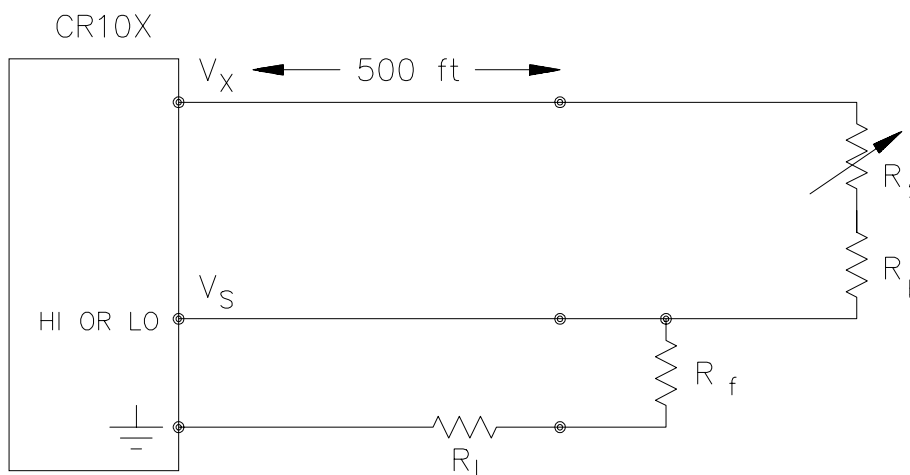

FIGURE 13.3-9. Incorrect Lead Wire Extension on Model 107 Temperature Sensor
6. Most Campbell Scientific sensors are configured with a small bridge resistor, R_f , (typically 1 kohm) to minimize the source resistance. If the lead length of a Campbell Scientific sensor is extended by connecting to the pigtailed directly, the effect of the lead resistance, R_l , on the signal must be considered. Figure 13.3-9 shows a Campbell Scientific Model 107 sensor with 500 feet of extension lead connected directly to the pigtailed. Normally the signal voltage is proportional to $R_f/(R_s+R_b+R_f)$, but when the pigtailed are extended, the signal is proportional to $(R_f+R_l)/(R_s+R_b+R_f+R_l)$. R_l is much smaller than the other terms in the denominator and can be discarded. The effect on the signal can be analyzed by taking the ratio of the signal with extended leads, V_{sl} to the normal signal, V_s :